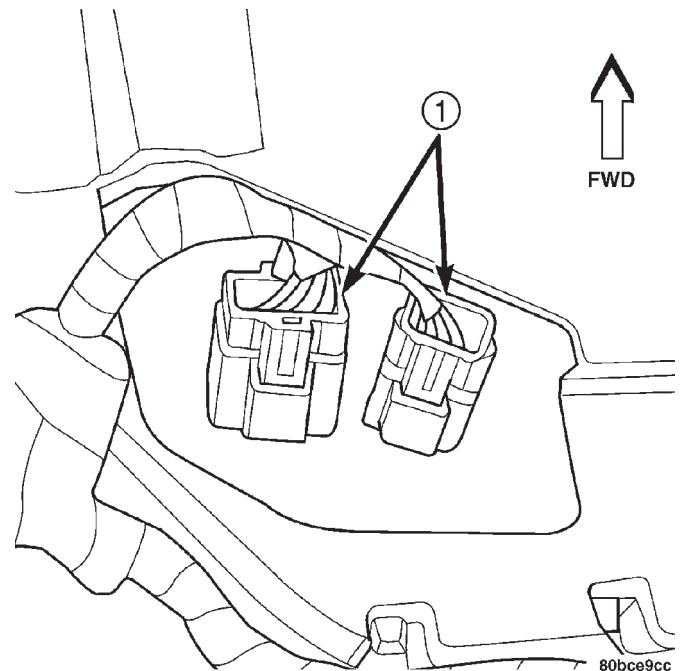

Fig. 11 Instrument Panel to HVAC Harness Connectors
- (18) Disconnect two harness connectors to hvac at right top instrument panel (Fig. 11).